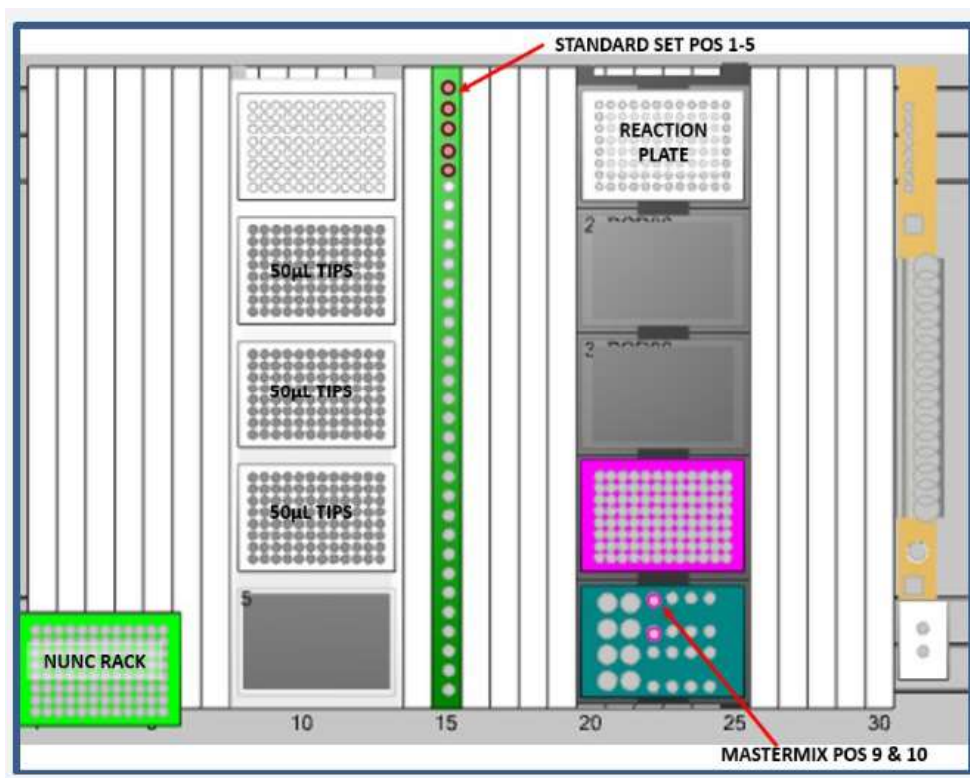

Figure 5 Quantifiler Trio Deck Layout.
- Set up the carriers on the autoload tray as shown in the layout (see Figure 5)
11. Briefly vortex and centrifuge all 5 tubes of Quantifiler® DNA standards dilution series and place into the sample carrier (SMP-CAR) in the order as displayed in Figure 5, **positions 1-5**. This carrier should then be positioned on the autoload tray in **Track 15**
14. When the deck is set up correctly, click the 'Run' button on the Method Manager (see Figure 4) and the STARlet will open a prompt to check the deck (see Figure 5). If the deck is OK, press "Continue" and the STARlet will automatically load the carriers.